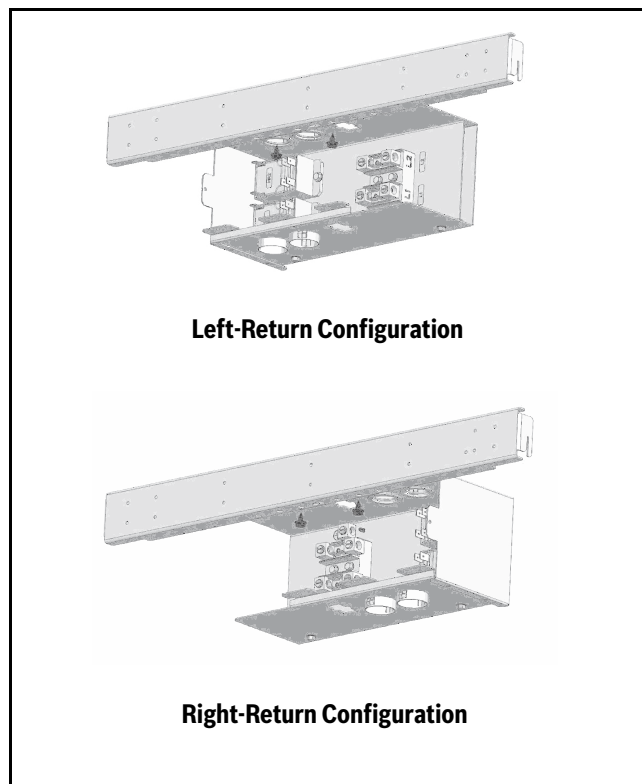
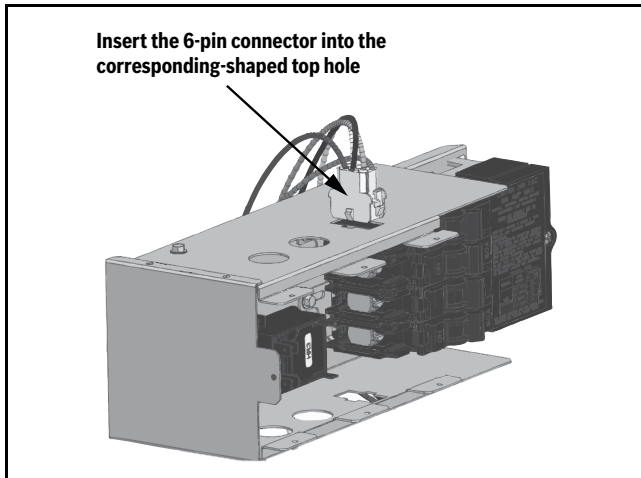

Fig. 19 Mounting the E-Heat Control Box
Fig. 20 Insert the Connector through the Top Hole of the E-Heat Control Box
2. Mount the e-heat control box by aligning the holes of the control box's flanges with holes in H-brace and fasten with two screws. (→Refer to Fig. 19.)
1. Locate the e-heat's 6-pin connector and insert it into the corresponding-shaped top hole of the e-heat control box. (→Refer to Fig. 20.)
Figure 20 is showing a left-return configuration (→Refer to Fig. 19 for the right-return configuration).
12. Install the H-brace e-heat control box assembly to the unit. (→ Refer to Fig. 19.)